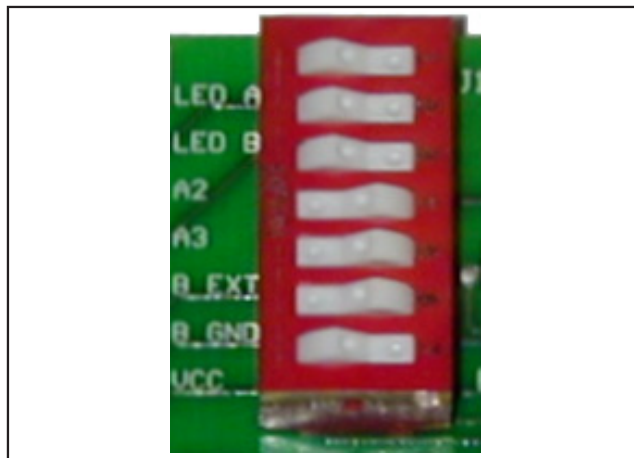

Figure 9. EV Board Dipswitch
- ii) Route the connections through switches 3 and 4 on each dipswitch block (see Figure 9). The switch pair represents the two possible subsections that could be previously connected to the current subsection. At most only one switch should be closed for any subsection. Each switch is labeled as A1, A2, or A3. Here, A1 indicates the top subsection (and its DS28EA00), A2 the middle, and A3 the bottom. The switch pair of the first subsection in the chain should be kept open (nonconducting). See Table 2 for all possible connection sequences. Select the sequence A1, A2, A3 (top to bottom).
The dipswitch block in Figure 9 routes chain-mode PIO connections between DS28EA00s. It also provides switches for powering the DS28EA00s and their PIO LEDs, enabling the RJ11 OUT sockets for cabling the snapped-apart boards together, and grounding PIO-B pins for chain-mode operation.
Figure 9 shows one of the dipswitch blocks and its silkscreen labels. The dipswitch block has many functions. See Table 1 for a listing of each switch with a brief description of what each switch does. Switches 1 and 2 provide for optionally powering PIO LEDs (it's suggested that users power LEDs for visual indication of PIO activity), and for optionally giving power to the DS28EA00's VCC, switch 7. But, its primary purpose is to route PIO chain-mode connections with switches 3, 4, 5, and 6. Switches 3 and 4, labeled A2 and A3 are used to actually re-route the physical connections between each DS28EA00 I/O pins. Since there are three boards and only two switches, the labels on these two switches could be A1, A2, or A3, with A1 referring to the top board, A2 the middle, and A3 the bottom board. However, after snapping and separating the three boards, these switches cease to function as routing switches so switch 5, labeled B EXT becomes